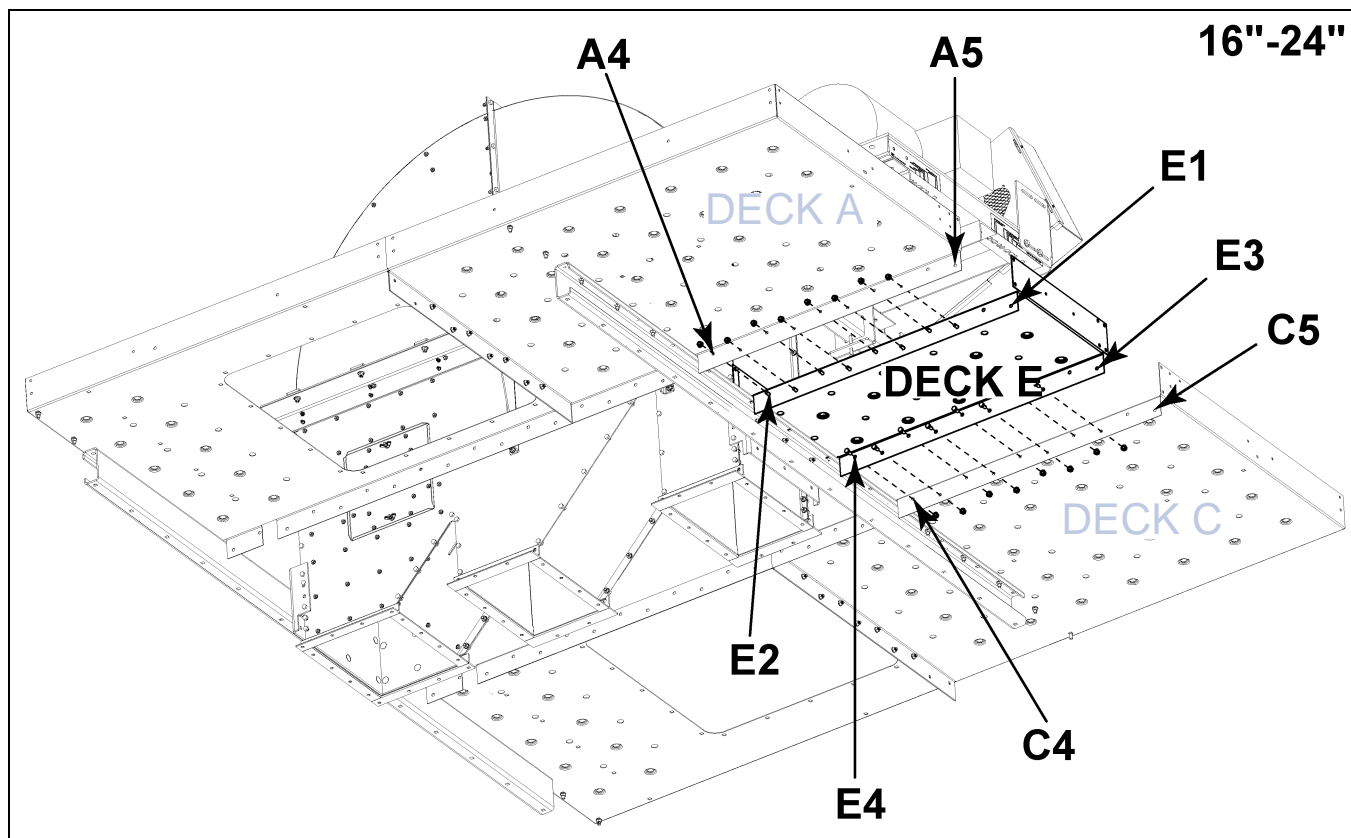

Figure 7H Deck E, Deck A and Deck C as Viewed from Underneath.
2. Using a punch as needed for alignment, connect Deck E to the side toe board using 3/8" x 1" carriage bolts (S-3585) with flange nuts (S-10028). Torque to standard specifications. (See Figure 7H.)